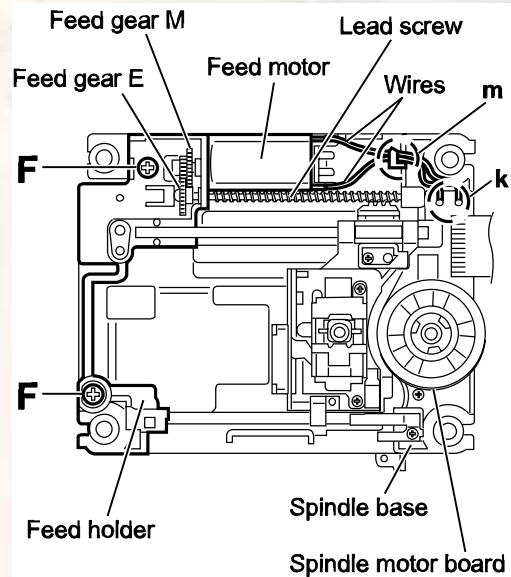

Fig.11
- (3) Remove the wires from the soldered section **k** on the spindle motor board. (See Fig.11.)
When attaching the feed motor, pass the wire through the section **m** on the spindle base. (See Fig.11.)
- (4) Remove the feed holder, feed motor, lead screw, feed gear **E** and feed gear **M** at the same time after removing the two screws **F** attaching the feed holder. (See Fig.11.)
(See Figs.11 and 13)**
- (1) From the top side of the traverse mechanism assembly, remove the wires from the soldered section **k** on the spindle motor board. (See Fig.11.)